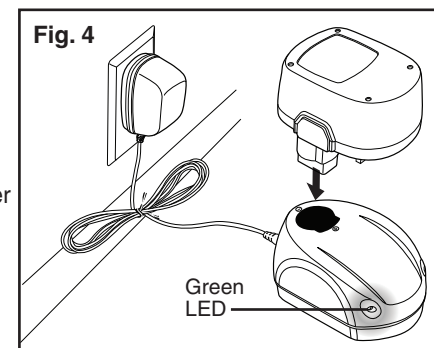

Fig. 4
CHARGING THE BATTERY PACK (Fig. 4 and 4a)
4. Place battery pack in charging stand. Align raised rib on battery pack with groove in charging stand (See Fig. 4).
CHARGING THE BATTERY PACK cont. (Fig. 4 and 4a)